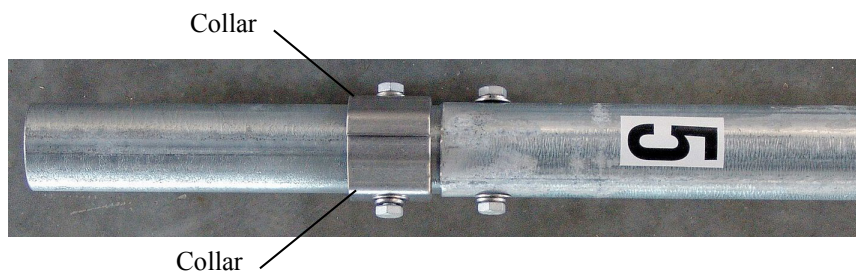

FIGURE 3-14. Mast Section 5
Step 12: Remove collars from Section 5 (see FIGURE 3-14).